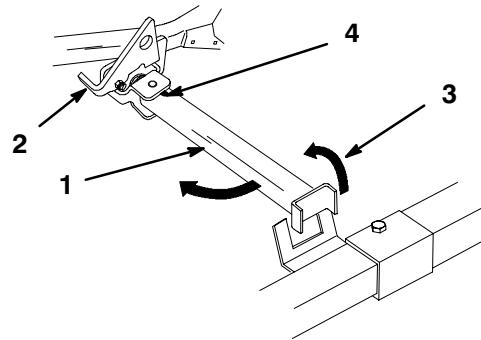

Figure 15
3. Swing stand foot out front and slide stand toward machine, into the bottom of slot (Fig. 15).
2. Raise latch. Lift stand foot and twist out of its rest position (Fig. 15).
4. Return stand to its rest position (Fig. 15).